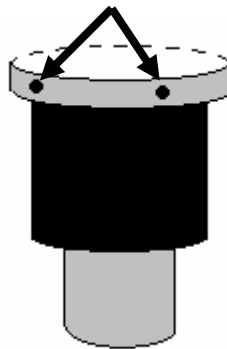

Figure IV-14 : Detector, screws fixing the capsule
3. Pull the photomultiplier tube straight up out of the capsule. If this is not possible loosen the two headless screws which fix the capsule to the arm (see Figure IV-14).